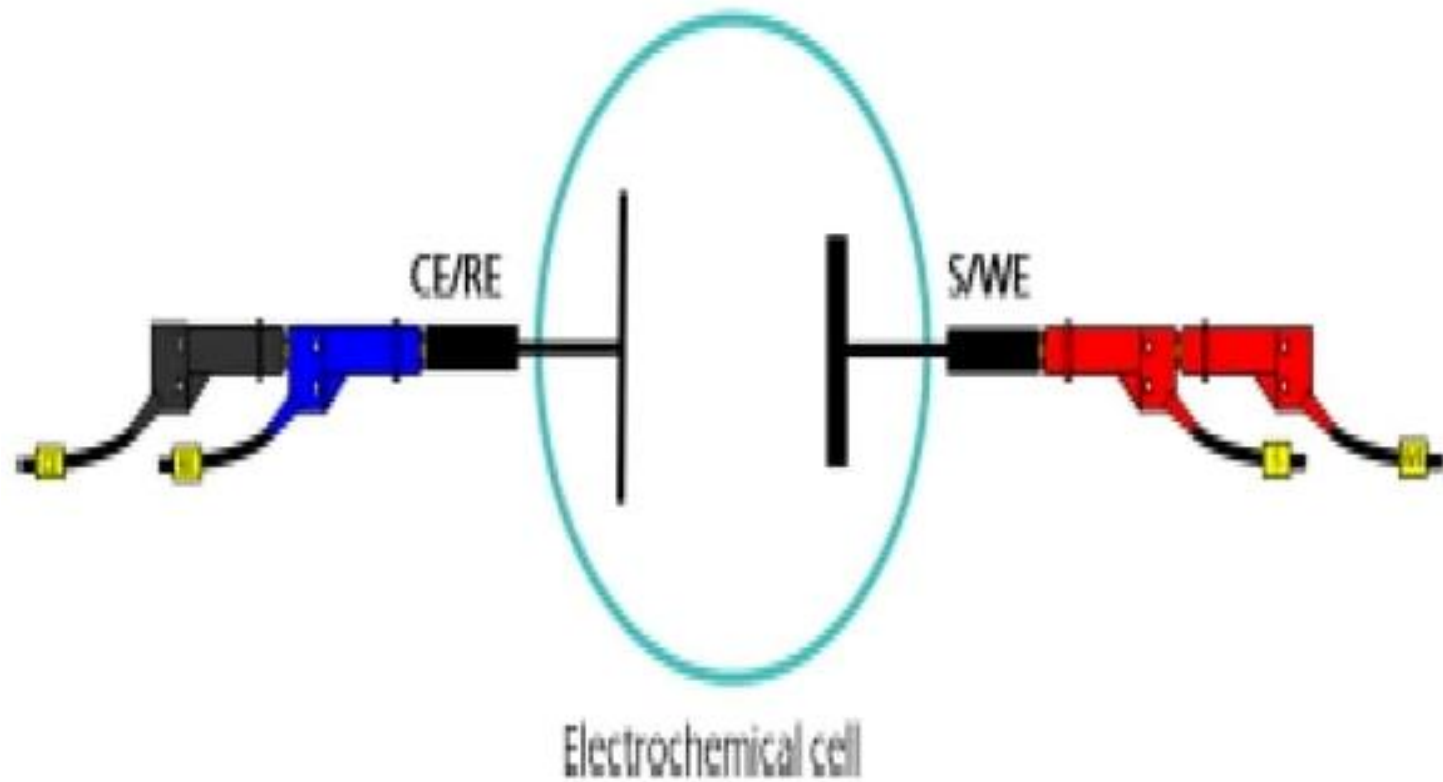

Figure 4 – Schematic view of the 2 electrode setup
- In a two-electrode cell setup (see Figure 4), CE and RE are shorted on one of the electrodes while the WE and S are shorted on the opposite electrode. The potential across the complete cell is measured. This includes contributions from the CE/electrolyte interface and the electrolyte itself.